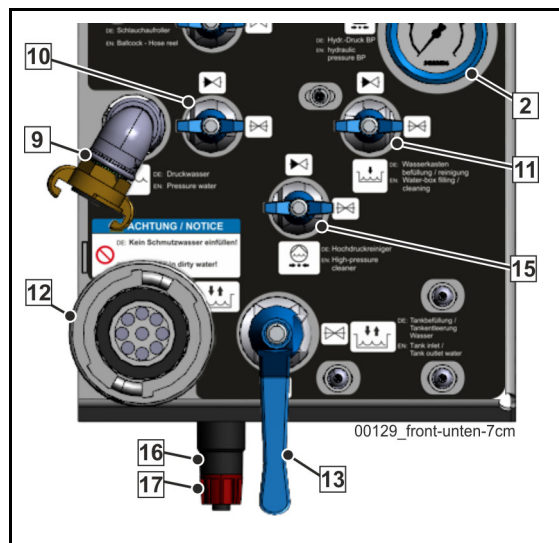

Fig. 438
- Lock the connection to the water case by switching the ball valve (15) (**Fig. 438**) on the supply control.